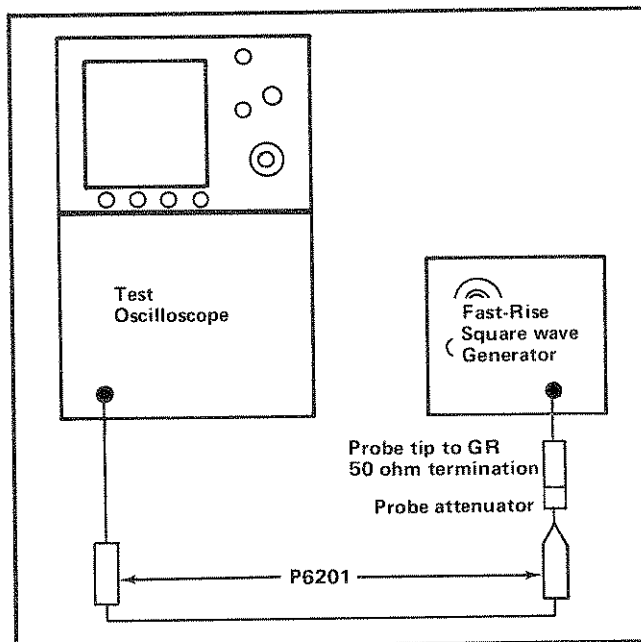

Fig. 5-8. Equipment setup for step 9.
- Connect the equipment as shown in Fig. 5-8.